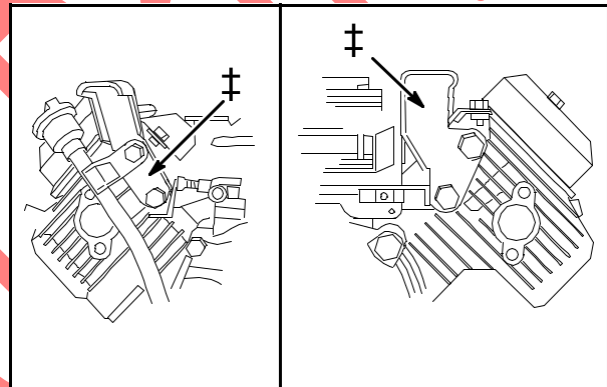

Fig. 3
8. If necessary remove 4 screws and 2 PTO side fuel tank base supports (7), **Fig. 3.**
Install 2 PTO side fuel tank base supports (7), **Fig. 3.** Torque screws to **140 in. lbs. (16 Nm).**